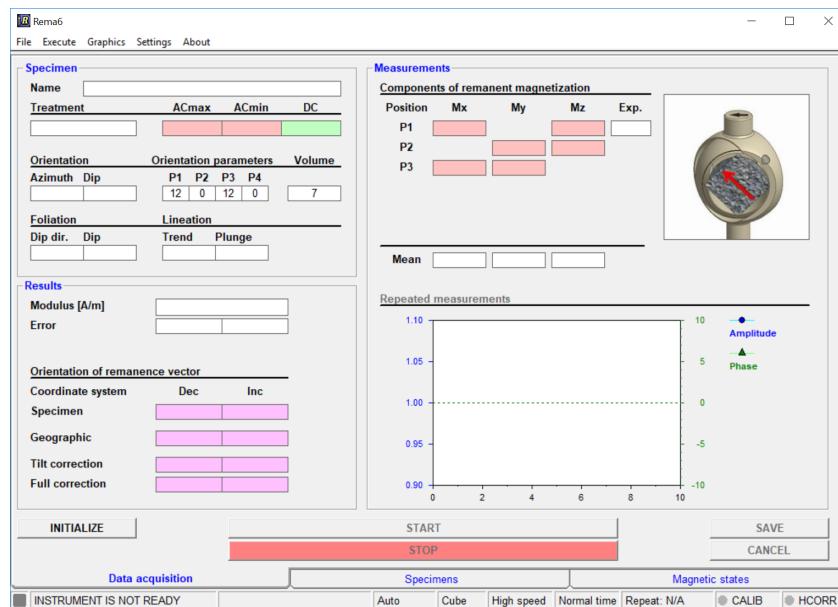

Figure 2: JR-6A Main Window before initialization.
4. Open the REMA6 software (version 6.2.06; release May 31, 2017), located on the desktop of the JR6 computer. The main REMA6 window will open (*Figure 2*).
3. Confirm that the orientation parameters are set to 12/0/12/0 on the main window (*Figure 2*). If they are not, select **Settings > Orientation parameters** to set them.
5. Click the **Initialize** button in the bottom left hand corner of the window (*Figure 2*). A dialogue box will appear and go through a series of checks (*Figure 4*). Once it is complete click **OK**.